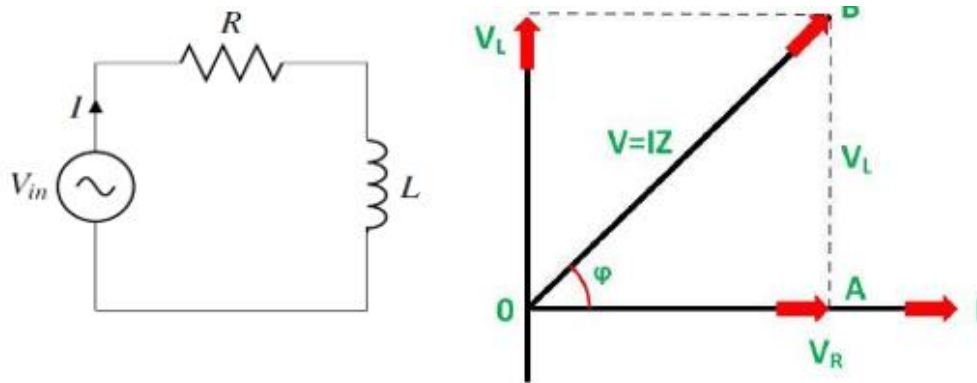

Figure 5.2: a) Series RL Circuit, (b) Phasor Diagram
2. Using Figure 5.2 with $V_{in} = 3\text{ V}$ sine at 10 kHz , $R = 1\text{ k}\Omega$, and $L = 10\text{ mH}$, determine the theoretical capacitive reactance (X_L) and circuit impedance ($Z \angle \theta$), and record the results in Table 5.4 and complete the calculated section of this table at other frequencies as well. Also, calculate the theoretical value of α and fill Table 5.4.
- Using Figure 5.2: a) Series RL Circuit, (b) Phasor DiagramFigure 5.2 with $V_{in} = 3\text{ V}$ sine at 10 kHz , $R = 1\text{ k}\Omega$, and $L = 10\text{ mH}$, determine the theoretical inductive reactance (X_L) and circuit impedance ($Z \angle \theta$), and record the results in Table 5.4.
- Construct the circuit of Figure 5.2 on PSpice. Use Sine Source (VSIN) as input with 3V amplitude [Keep AC = 0].
- Using Figure 5.2 with $V_{in} = 3V$ sine at 10 kHz , $R = 1\text{ k}\Omega$, and $C = 10\text{ nF}$, determine the theoretical capacitive reactance (X_C) and circuit impedance ($Z \angle \theta$), and record the results in Table 5.5.